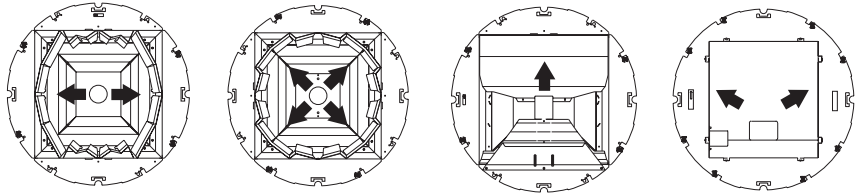

FIGURE 2
13. Close reflector assembly and secure with four 1/4-turn fasteners loosened earlier. See Figure 2.
- A. Open door by loosening (4) door lock screws.
- C. Loosen (4) 1/4-turn fasteners from sides of reflector. See Figure 2.
- F. Hinge reflector back down and refasten (4) 1/4-turn fasteners loosened earlier.
IMPORTANT: Make certain luminaire is positioned correctly on pole top for desired distribution. Luminaire may be rotated 360 degrees on pole top for proper positioning. Align yoke arms with luminaires on all poles and align and tighten mounting bolt securely when proper position is determined. See Figure 2 for light distributions for each reflector type.